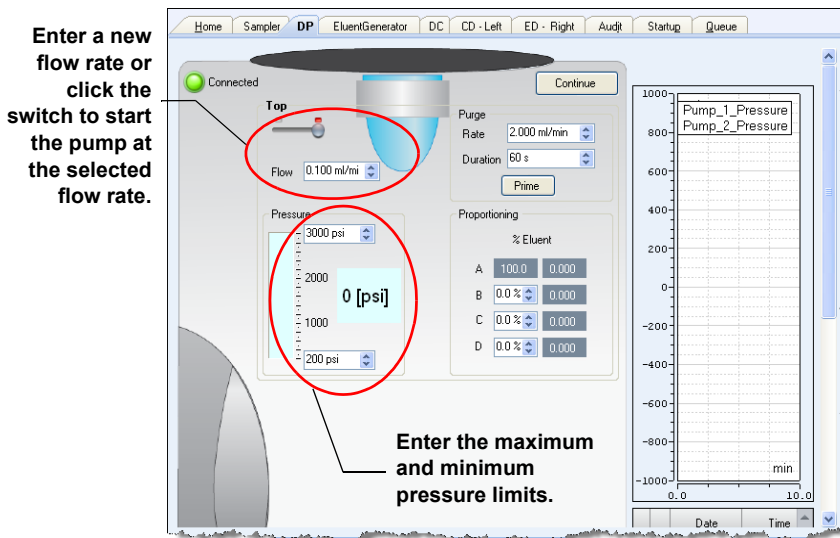

Figure 4-5. Setting the Pump Flow Rate and Pressure Limits
- On the Chromeleon ePanel Set: Click the pump tab to display the pump ePanel (see Figure 4-5).